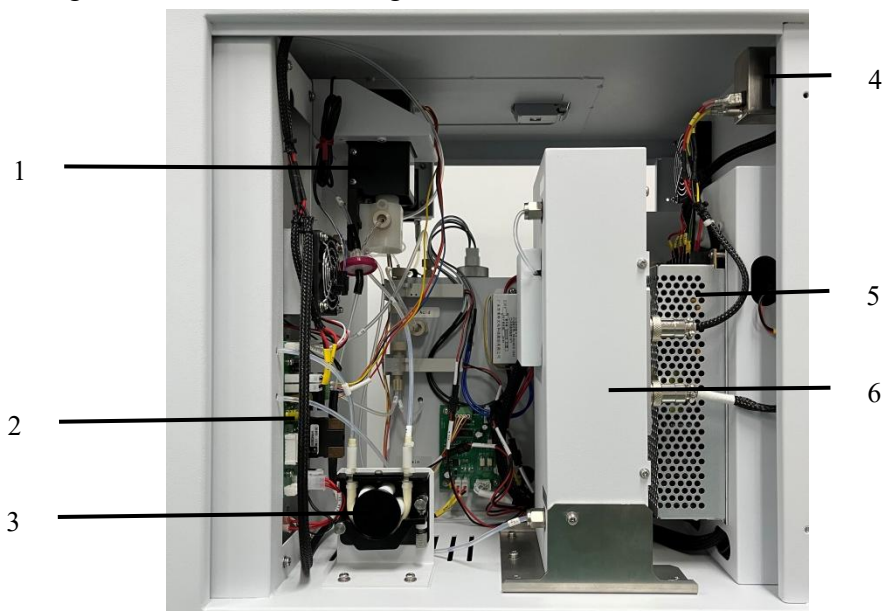

Fig 3.3
3.2.2.3 The right view is shown in Fig. 3-3.